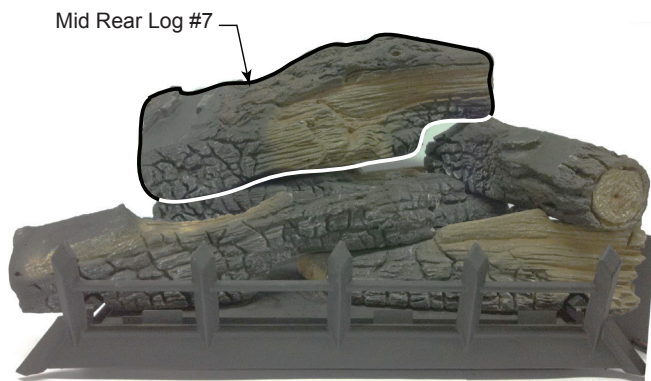

Figure 40
- Place mid rear log (#7) on bottom rear log (#1) and mid right log (#6) by placing notch on bottom of log onto locating block on log #1. Right side of log will rest on log #6. *Figure 40*